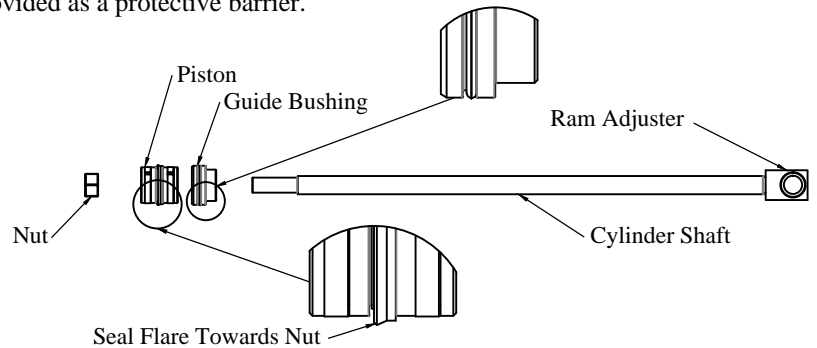

Figure 8: Cylinder shaft assembly.
9. **Install** the guide bushing on the cylinder shaft as shown in (Figure 8).
10. **Install** the piston and nut in the order and orientation shown in (Figure 8).